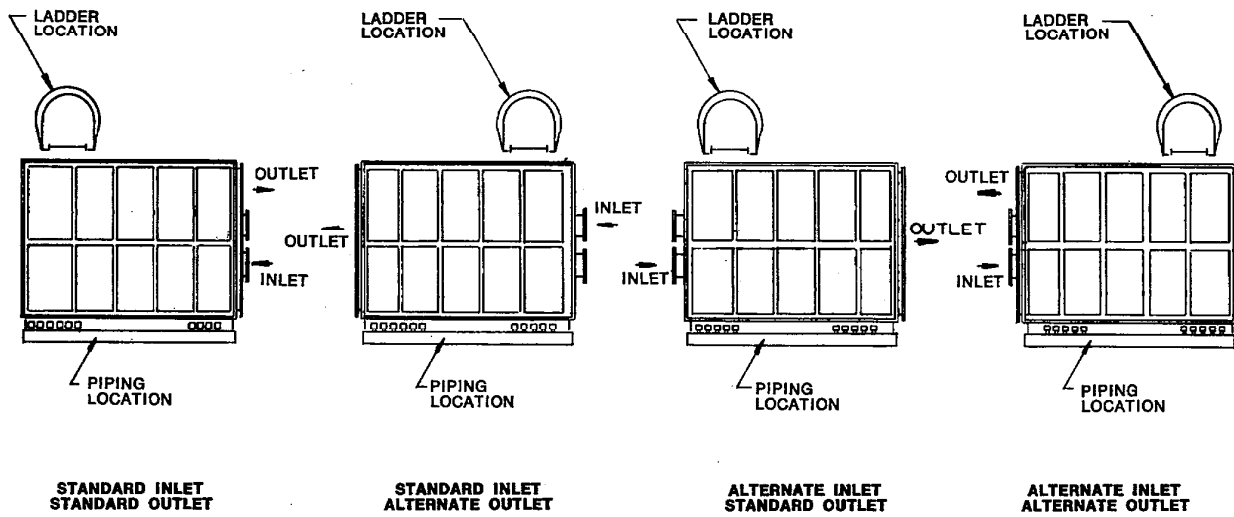

FIG. 4
- e. Apply sealant (furnished) around hopper flange making certain that all bolt holes are circled, Figure 3. Lift housing into place on hopper flange, making certain that inlet is correctly oriented, see Figure 4, (again, using spreader bars, etc.). Install and securely tighten flange bolts.
- f. Apply sealant (furnished) around top of housing flange making certain that all bolt holes are circled. Lift outlet plenum assembly into place on housing flange (again, using spreader bars) making certain that outlet and surge tank location are in accordance with required collector arrangement, see Figure 4. Install and securely tighten flange bolts.